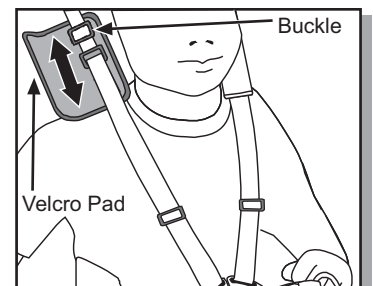

Fig. 21 Adjust Shoulder Straps.
- Adjust shoulder strap height. Adjust height of shoulder strap to fit just above child shoulder height (Fig. 21).
- Adjust shoulder strap. Open Velcro pads. Slide buckle up or down to adjust straps. Seat harness should fit snug and be comfortable (Fig. 21).